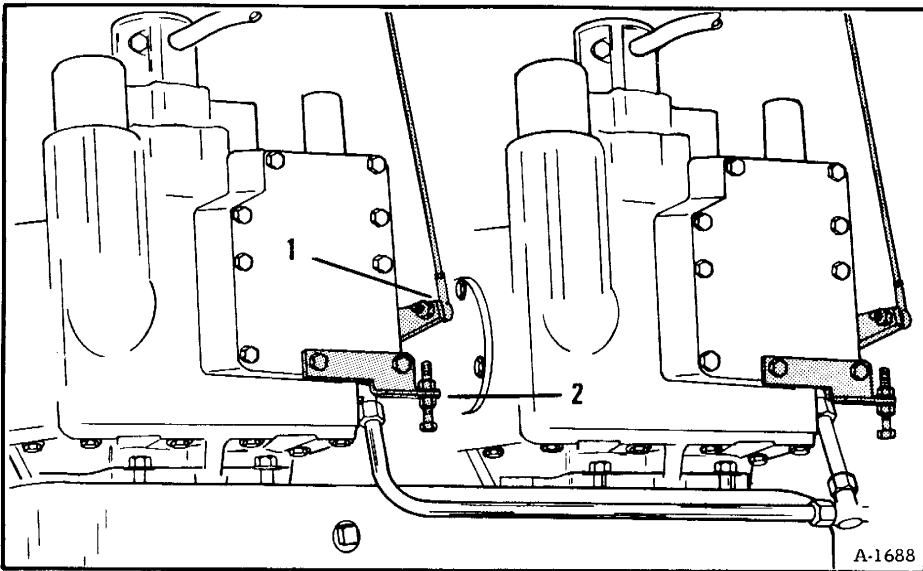

Fig. 88 Control Arm Linkage
2. Disconnect the servo control arm linkage at the pumps (Figure 88, Item 1).
3. Loosen the control arm stops on the pumps (Figure 88, Item 2) and back them off, away from the control arms.